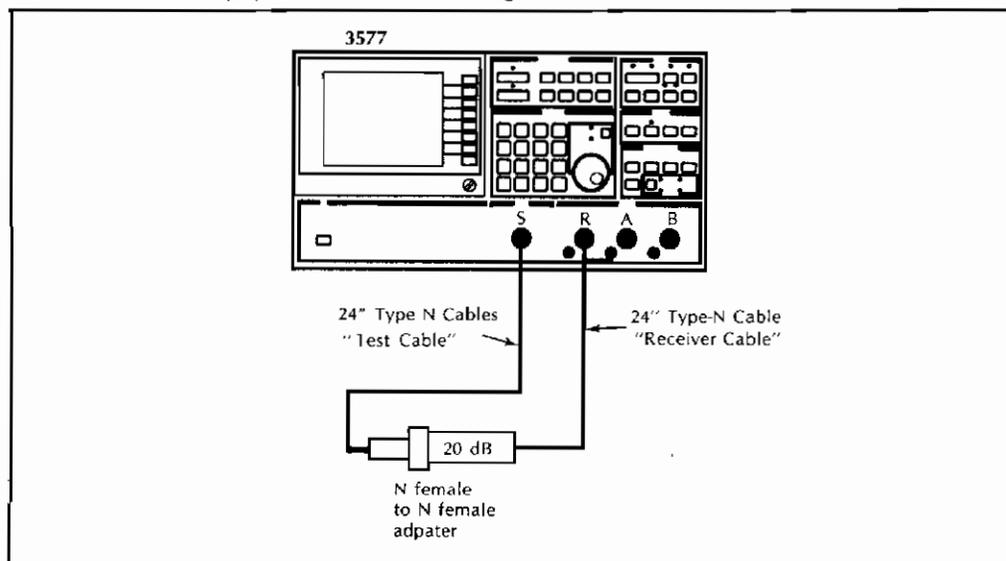

Figure 3-16 Calibration of Transmission Loss from Power Splitter to Channel R
- i. Connect the equipment as shown in Figure 3-16.